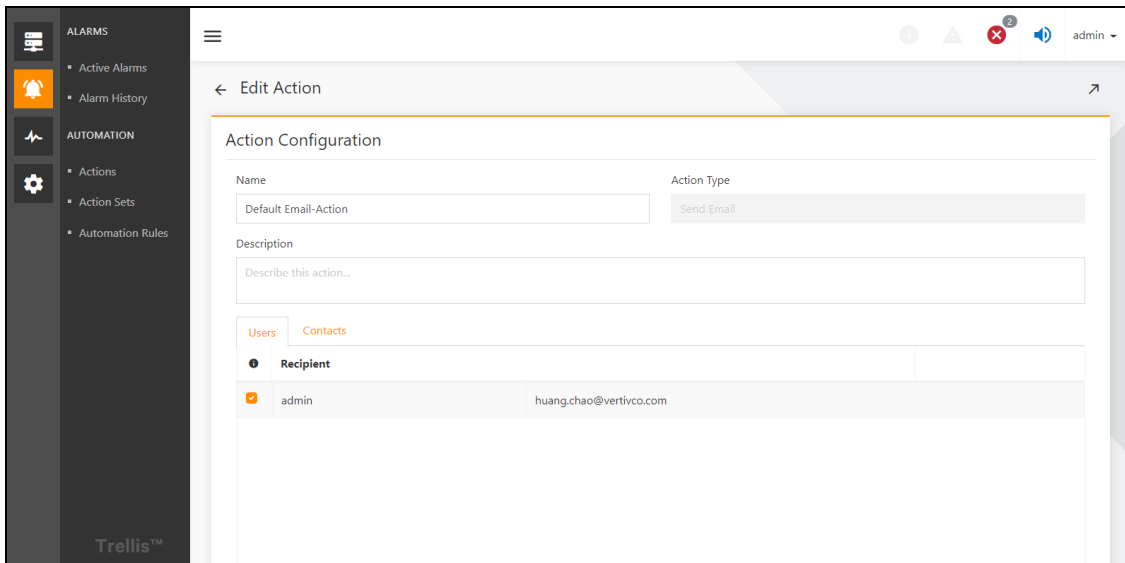

Figure 7.6
2. Go to the action configuration interface, as shown in **Figure 7.6** below. Check the user admin to accept the email notification after click Save. The same way into the default SMS notification action editing interface, check the user admin to accept the SMS notification after click Save.